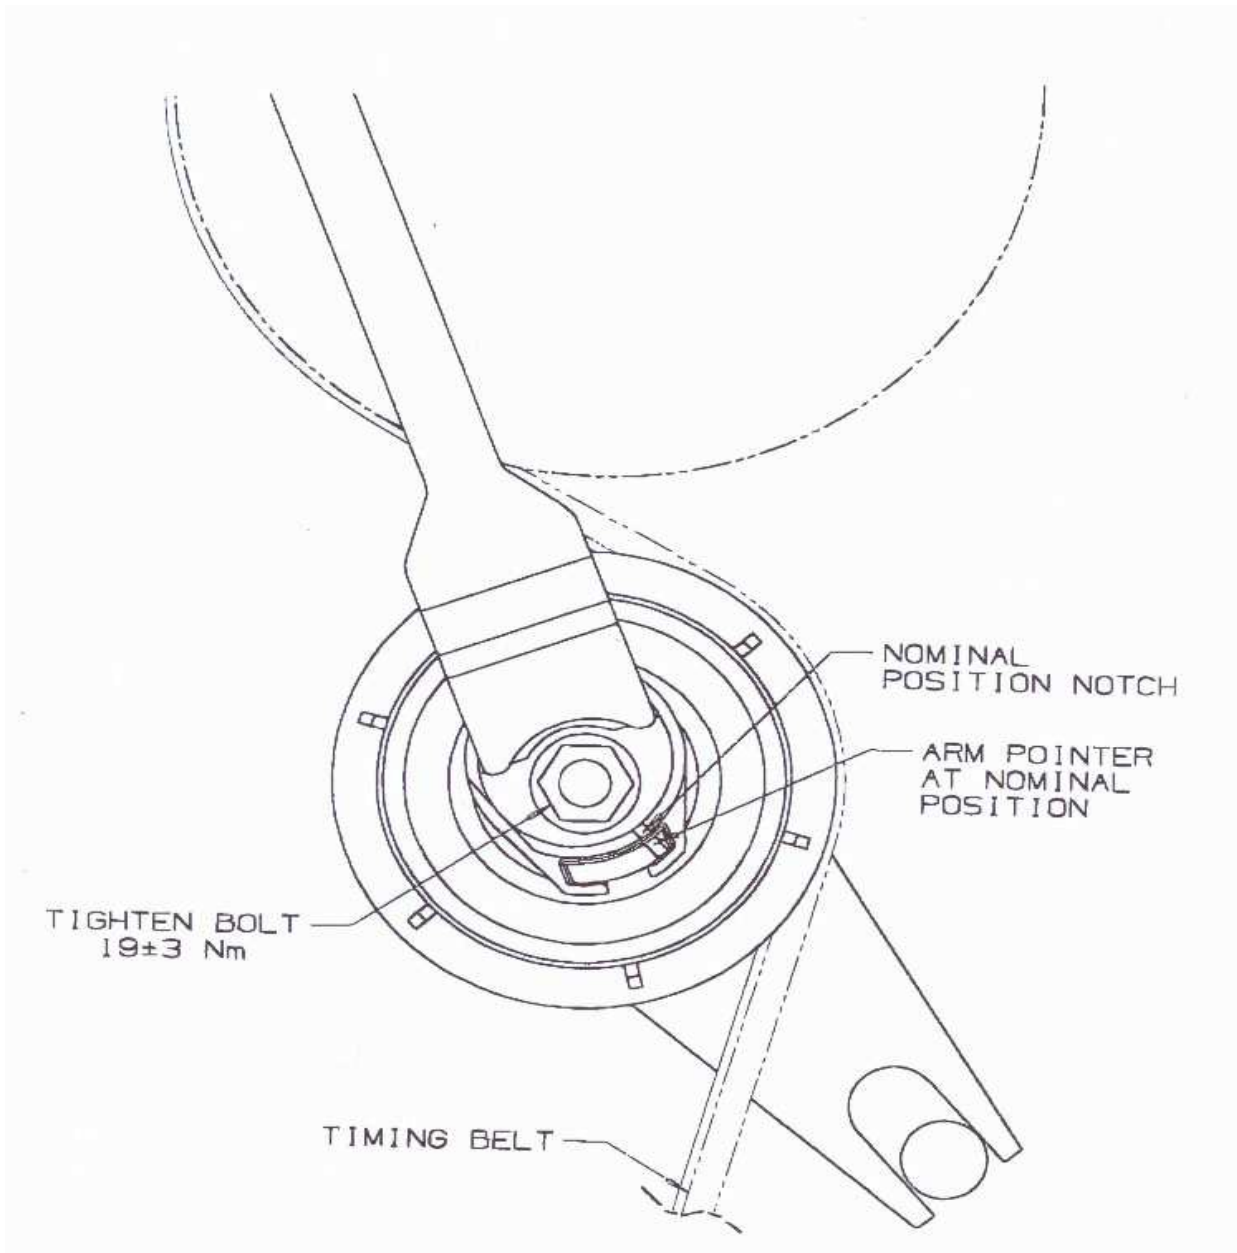

Figure 5: Proper Installation of tensioner at room temperature (20°C)
7. Continue rotating the *Installation Shaft* until the *Arm Pointer* aligns with the *Nominal Position Notch* on the front plate, then lock the tensioner in this position by tightening the *Mounting Nut* with **19±3 Nm** of torque (See Figure 5).